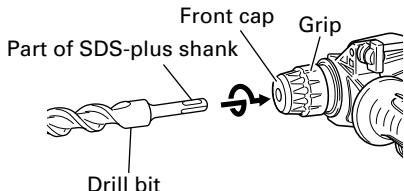

Fig. 2
### 6. Mounting the drill bit (Fig. 2)
- (1) Clean the shank portion of the drill bit.
- (2) Insert the drill bit in a twisting manner into the tool holder until it latches itself. (Fig. 2)